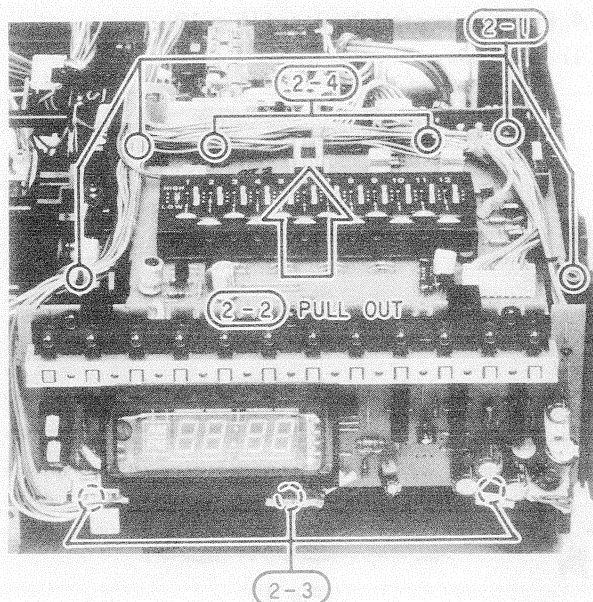

Fig. 11
2. Timer, Programme preset PC Board (Fig. 11)
- 3) Remove the timer/programme preset bracket (Fig. 11)